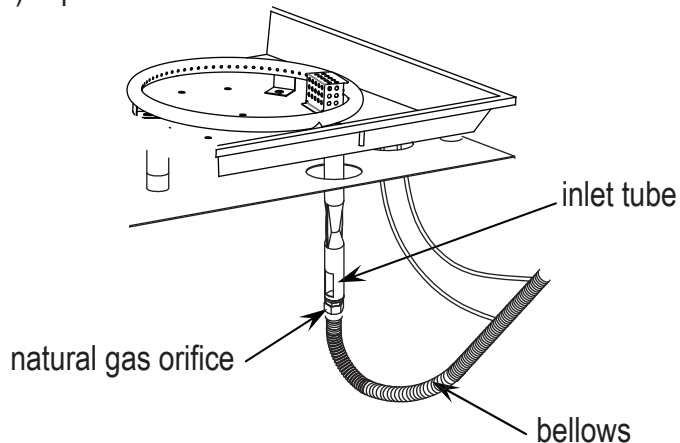

Figure 15
3. Replace the propane orifice with the natural gas orifice, screw the natural gas orifice with the bellows tightly, then connect and tighten the natural gas orifice with inlet tube (see Figure 15). Natural gas orifice (4.18 mm diameter size) is painted with black mark.